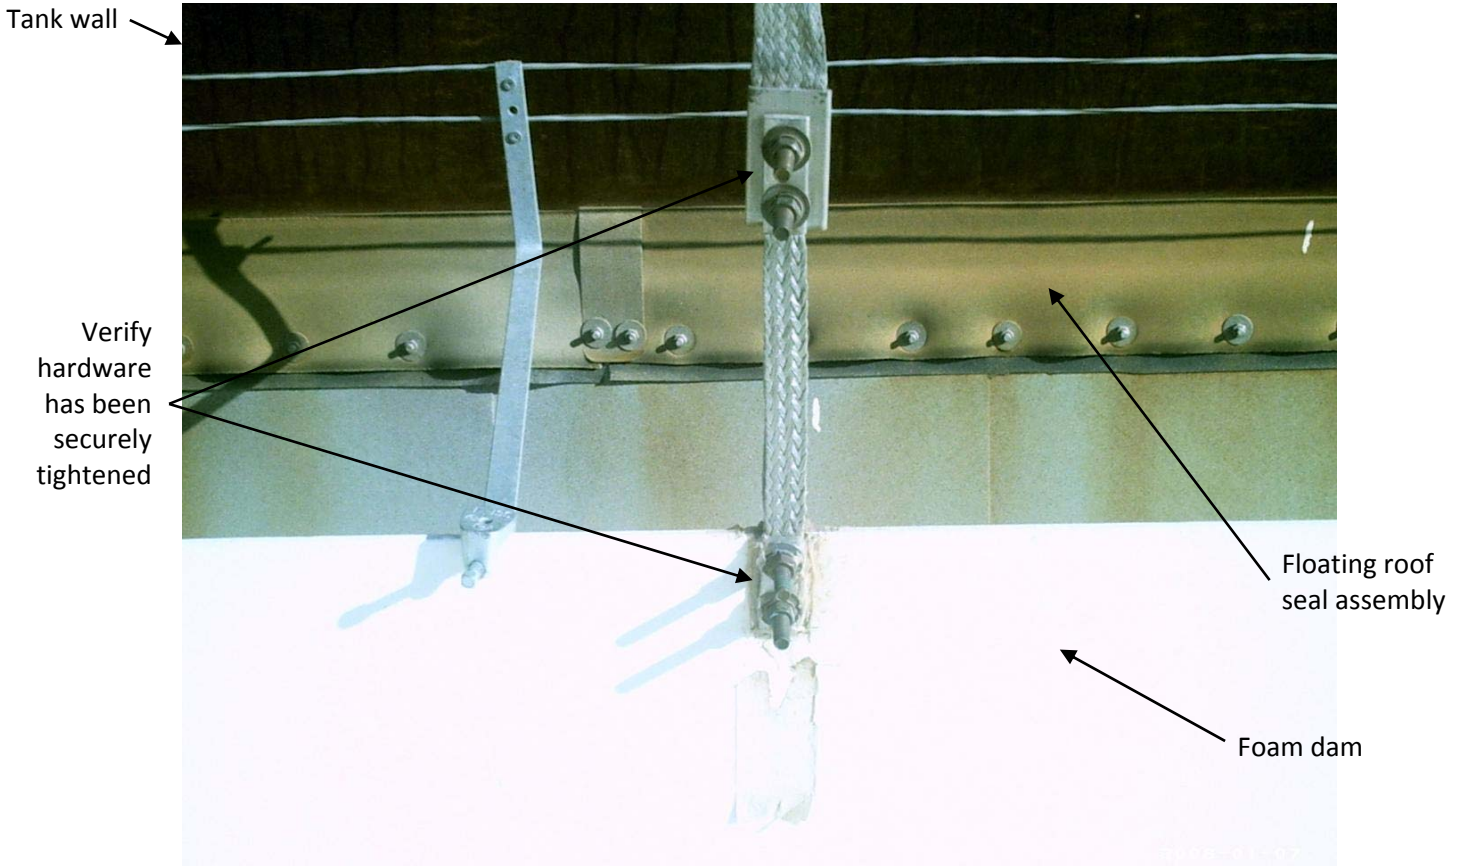

Figure 11: Secure cable and ground strap attachment to foam dam
3.2.4 As shown below in Figure 11, verify that all nuts and bolts fastening the RGA cable to ground straps and ground straps to foam dam or tank roof have been securely tightened.